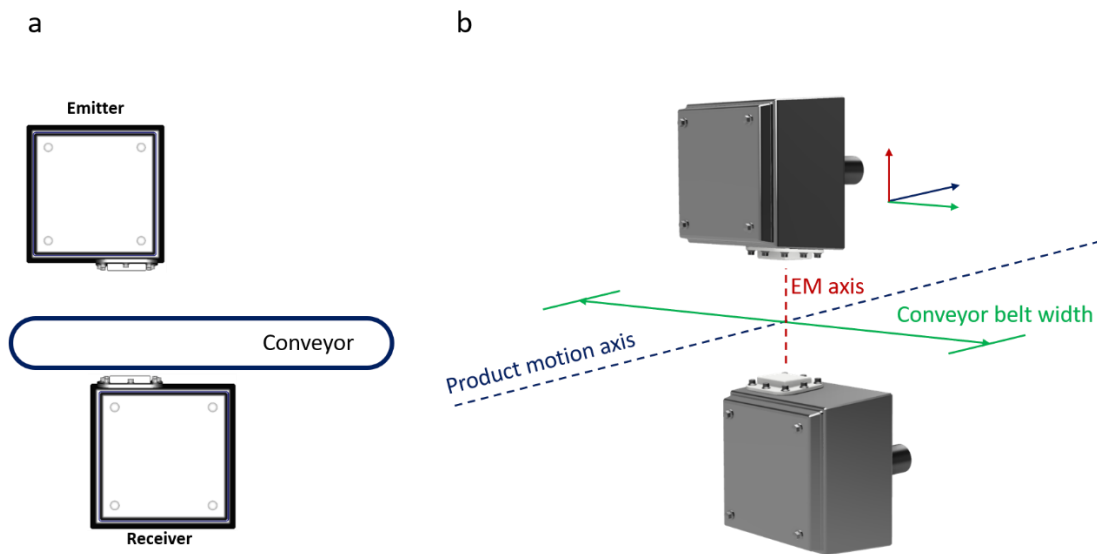

FIGURE 1: ORIENTATION OF THE SENSOR RELATIVE TO THE CONVEYOR BELT AND PRODUCT MOTION AXIS.
- ✓ Figure 1. It is strongly recommended to have as few as possible metal parts near the electromagnetic-axis. The distance between the emitter and receiver (from antenna cover – to – antenna cover) should be kept to a minimum. Foresee sufficient margin (> 2 cm) such that under all conditions moving parts are not touching the instrument.